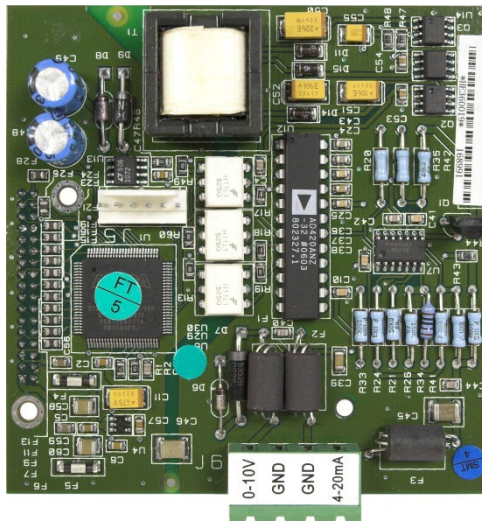

Figure 1-1: Analog Output Option Board
- Figure 1-1 shows an Analog Output Option Board with its connector at bottom center.